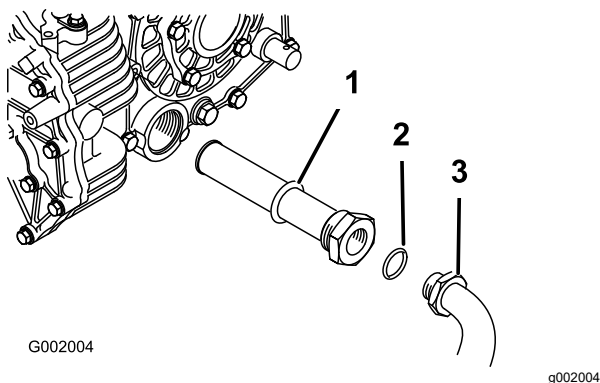

Figure 56
5. Remove the hydraulic hose and 90° fitting (Figure 56).